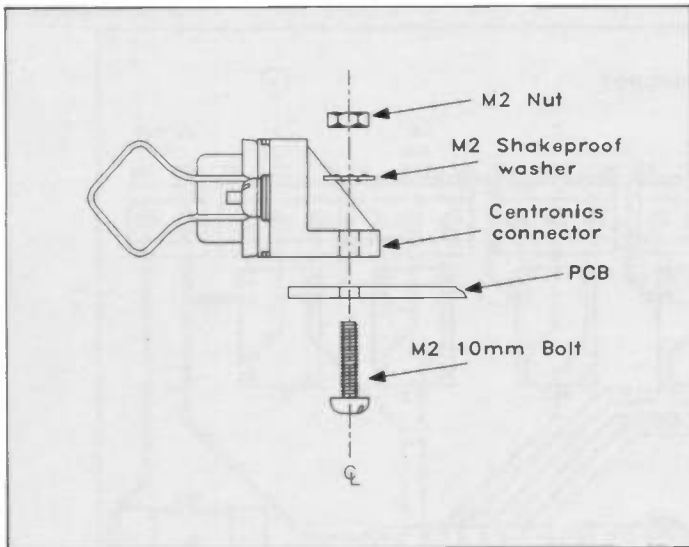

Figure 5. Centronics connector assembly.
9. Install the Centronics socket SK1 (see Figure 5). Take care that all 36 pins pass successfully through the corresponding holes. Due to their relatively small pitch, great care must be taken when soldering the pins in order to avoid solder bridges between them, which will prove very obstinate to remove once formed. The socket must be bolted into place first, after which it may be advantageous to shorten the pins slightly, before soldering. Use the two M2 × 10mm bolts, nuts and washers provided in the kit.